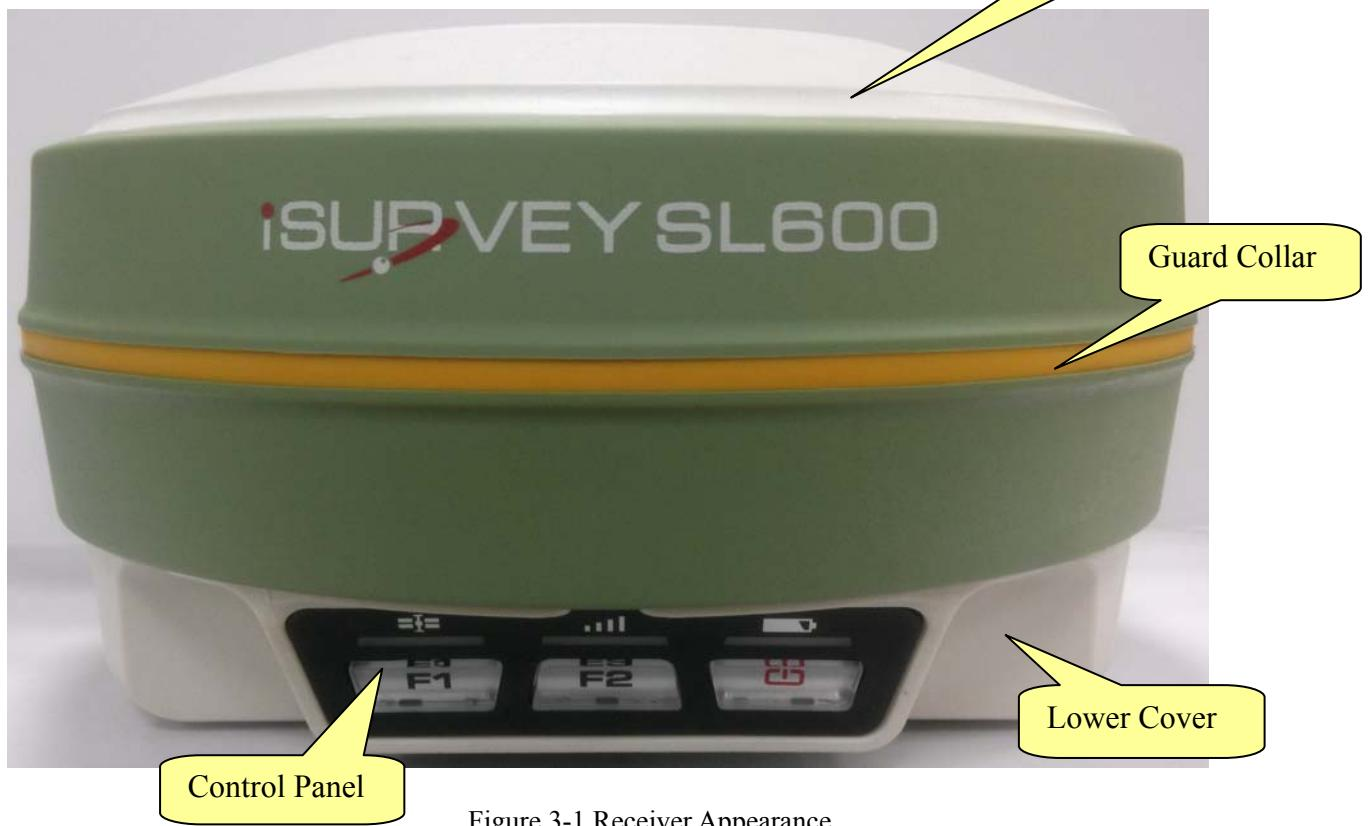

Figure 3-1 Receiver Appearance
Receiver Appearance mainly including 4 parts: upper cover, lower cover, guard collar and control panel, as Figure 3-1
Figure 3-1, in the middle of red frame of SL600 receiver is control panel. And the control panel contains the F1 key (function key 1), F2 key (function key 2) and the power button, 3 indicator leds which are respectively satellite led, the status led (dual-color led ), the power led (dual-color led). The simple three buttons include all the features setting of the SL600 receiver.